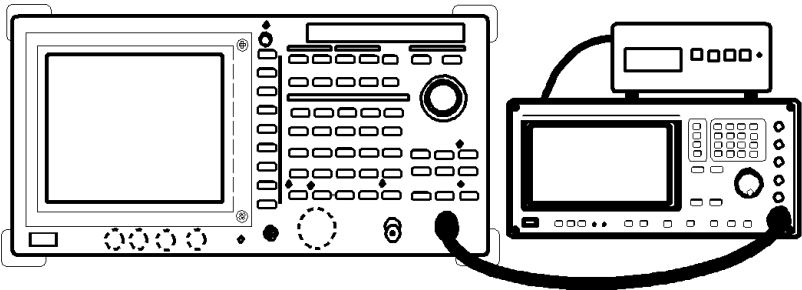

Figure 1-2 Connections for Measuring the Frequency Reference Output Accuracy (when the OPT21, OPT22 and OPT23 are installed)
1. Connect the signal generator as shown in Figure 1-2.